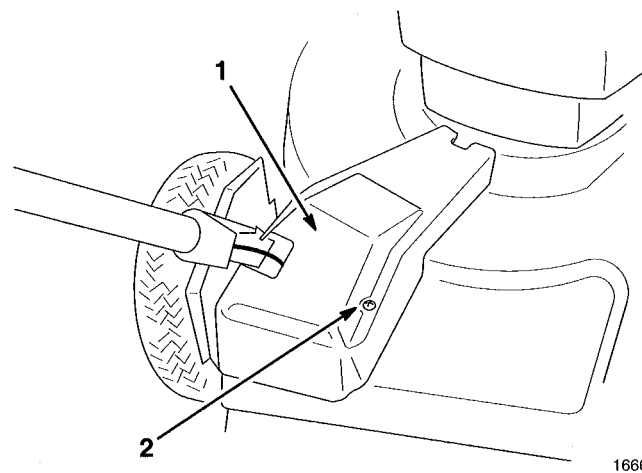

Figure 31
1. With engine turned off, remove bolt securing belt cover (Fig. 31) to mower housing.